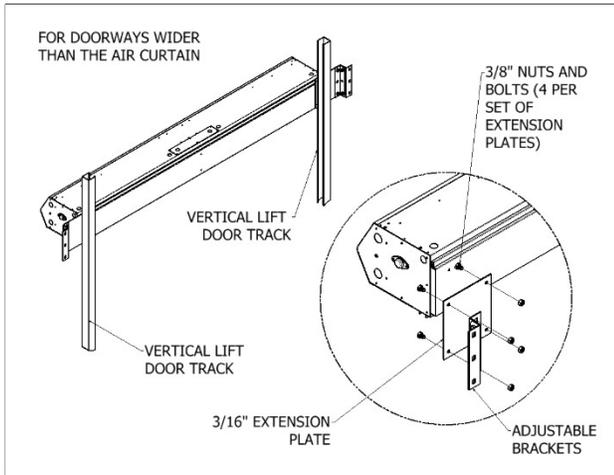

FIG. 5 (LPV SHOWN)
1. Side Extension Plates: For doorways wider than the air curtain, use combination of Side Extension Plates and Adjustable Mounting Brackets. (FIG. 5)
- Regardless of whether the product is mounted on the inside or outside of the door opening, set the air directional vanes in the discharge nozzle slightly outward to approximately 10-15° towards the outside, or the wind load. (FIG. 5).